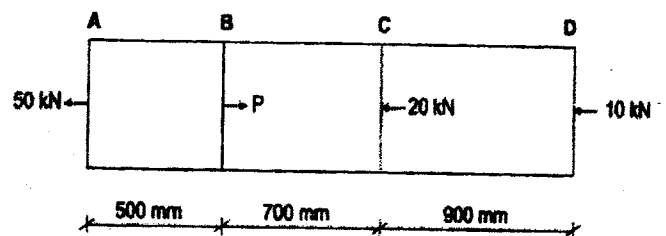
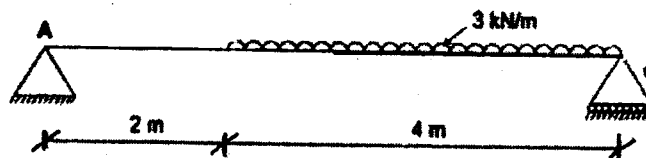

Figure 13
Figure 14
- c A steel bar ABCD is subjected with axial load as shown in Figure 13. If bar is in (06)
- Q-6** a Derive an expression for the deformation of tapered bar circular in cross section. (03)
- b Define and explain use of point of contraflexure in beam. (02)
- c Draw S.F and B.M. diagram of simply supported beam shown in Figure 14. (09)